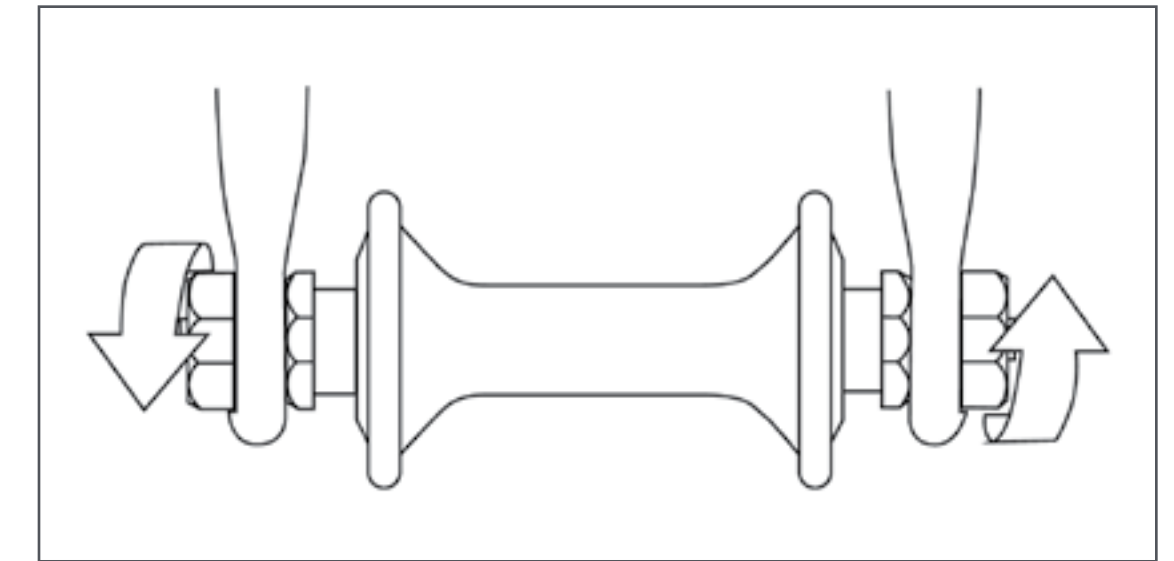

FIGURE 10
- Hex nuts or hex key bolts which are threaded on to or into the hub axle (Bolt-on Wheel, Figure 10).